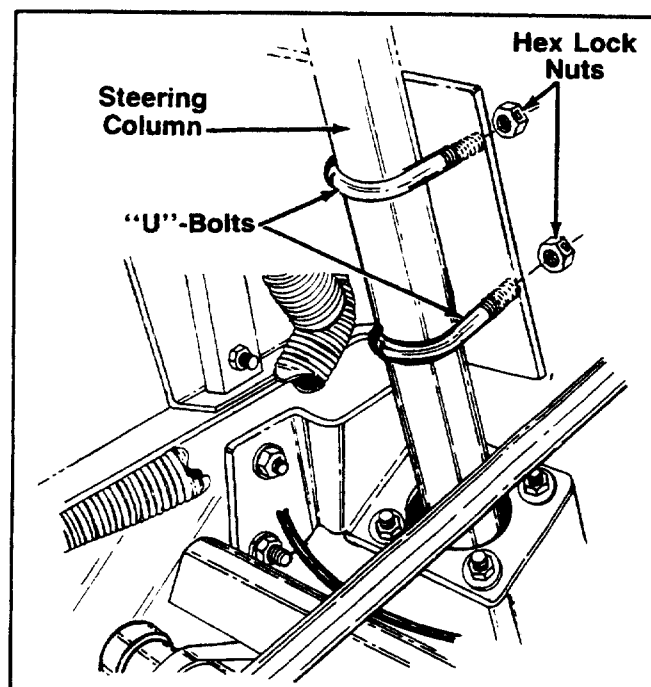

FIGURE 11.
10. Loosen the two "U"-bolts, holding the steering column. Loosen the four hex lock nuts as much as possible. **Do not remove nuts.** See figure 11.
- E. Now tighten four lock nuts on two "U"-bolts to secure the valve plate assembly to the steering column (left loose in disassembly section, step 10, figure 11).